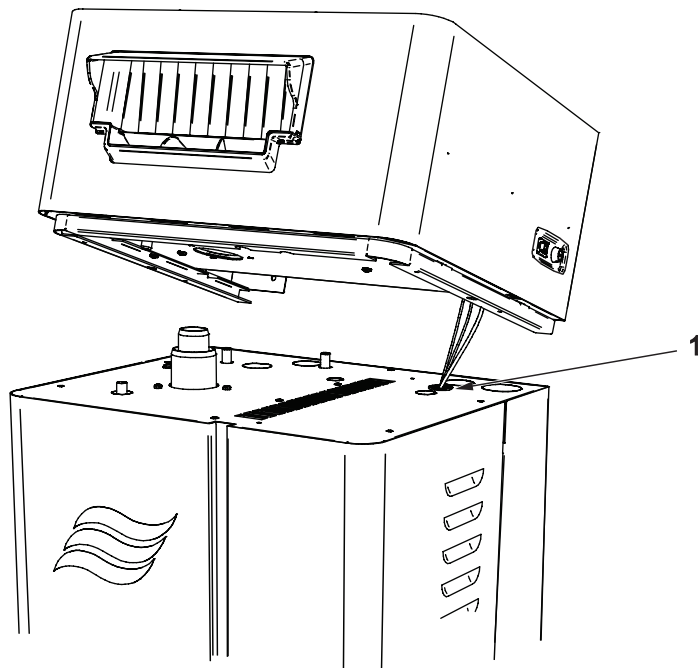

Figure 19: Routing Cables
- b. Install the grommet (supplied) in the knockout hole that is located directly below the blower pack power connector, and route the cables through the grommet. Refer to Figure 19.